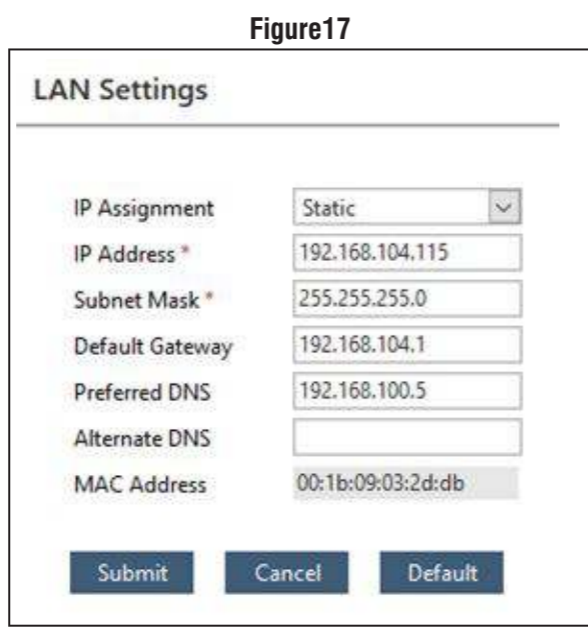

Figure 17
- On the Door Web page, select the **Settings** link. Go to **LAN Settings**. Enter the IP address to be assigned to the Vega Controller and configure Subnet Mask, Gateway IP address, Preferred and Alternate DNS as required as shown in Figure 17.